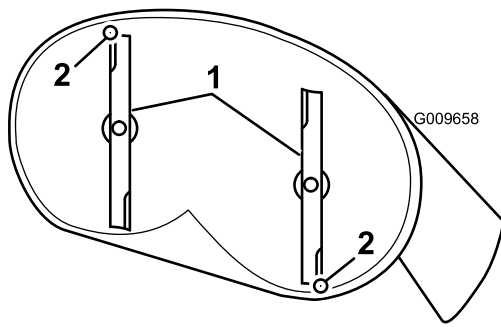
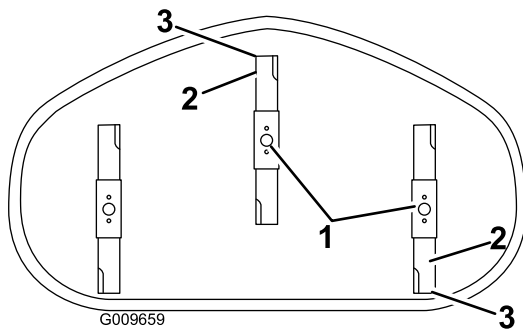

Figure 56
Figure 57
- Carefully rotate the blades so they are facing front to rear (Figure 56 and Figure 57).
8. After adjustment, check the front-to-rear slope again. Continue adjusting the nut until the front blade tip is 1/16-5/16 inch (1.6-7.9 mm) lower than the rear blade tip (Figure 56 and Figure 57).
5. Measure from the tip of the front blade to the flat surface and the tip of the rear blade to the flat surface (Figure 56 and Figure 57). If the front blade tip is not 1/16-5/16 inch (1.6-7.9 mm) lower than the rear blade tip, adjust the front locknut.